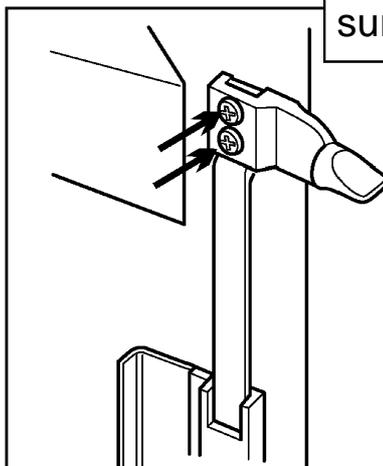

Figure 44. Front Surround Bottom location (Shown with Ultimate slide button)
4. **Make sure that the control linking bar has been detached (See point 2).** Carefully lift the surround unit upward to clear the upper retaining brackets on the convection box - See figure 44. Pull the surround clear and place carefully aside.
2. Detach the slide button by removing two screws – See figure 44.